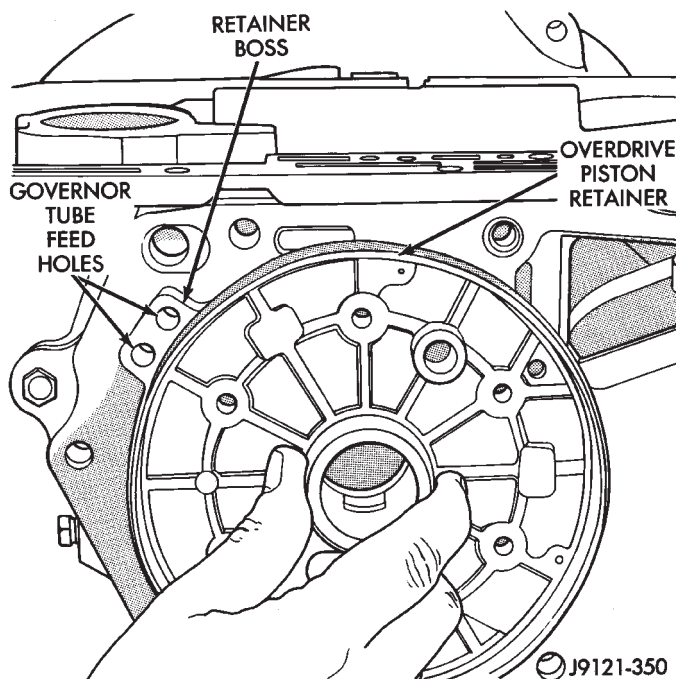
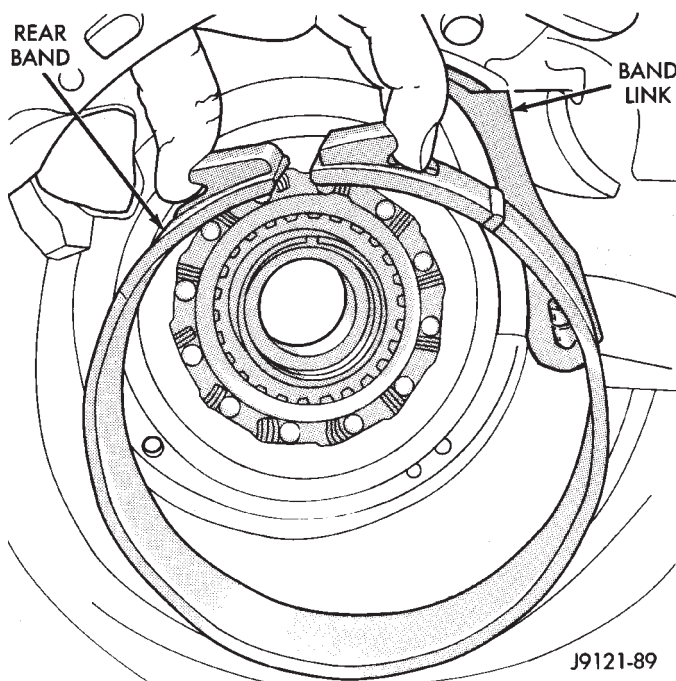

Fig. 133 Installing Overdrive Piston Retainer—46RH
Fig. 134 Installing Rear Band And Link—46RH
(6) Install overdrive piston retainer. Be sure governor tube bores in retainer are aligned with governor feed passages in gasket and case (Fig. 133). Install and tighten retainer bolts to 17 N•m (13 ft. lbs.) torque.
(7) Install overrunning clutch components if not yet installed. Refer to Overrunning Clutch Overhaul in this section if necessary.
(8) Position rear band and link in case (Fig. 134). **Be sure notched side of link faces away from band.**